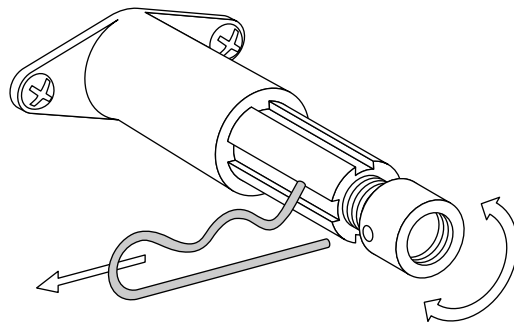

FIGURE 23
1. Remove the drawer, then remove the retaining pin from the barrel of the push-latch (see *Figure 23*).